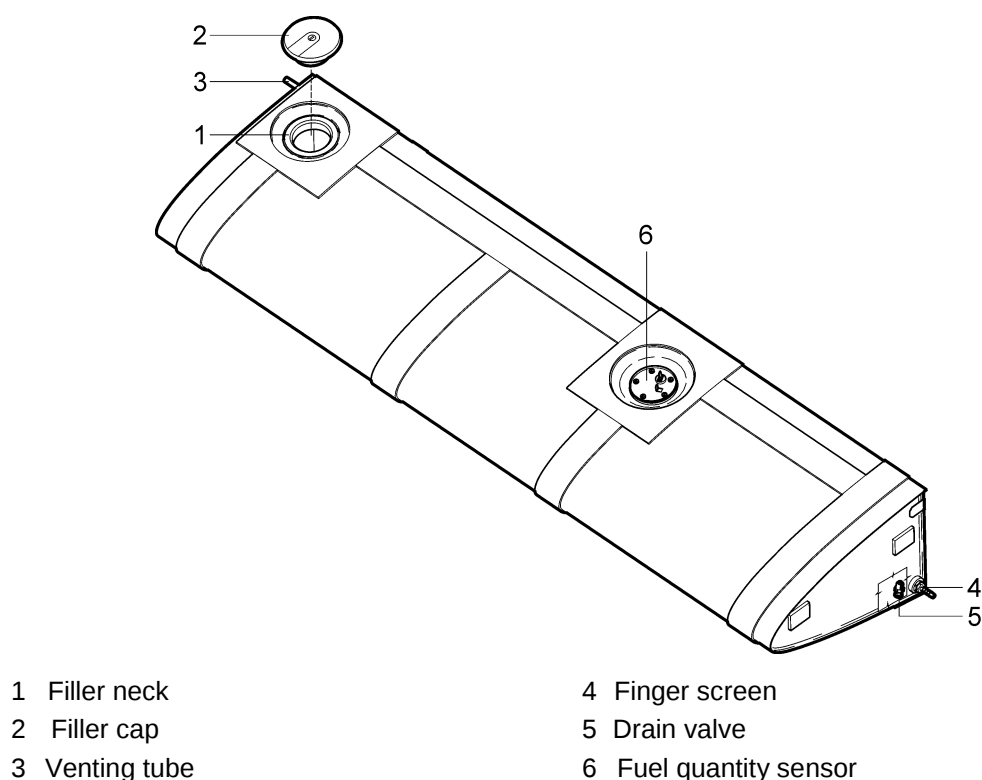

Fig. 9-2: Fuel tank, right
Fuel is stored in airplane in the fuel tanks. The fuel tanks are welded from Al-alloy sheet and their volume is 57 liters (15 US gallons) each. The tanks are located in the outer wings between ribs No.4 and 6a in front of the main spar. Their shape fits with 3.2 mm (1/8 in) offset with outer wing shape. The gap is filled with cork strips glued on the fuel tank. Cork strips protect the tank from touching the skin and the wing spar. Each fuel tank has a filler neck (1, Fig. 9-2) with flush head filler cap (2), venting tube (3), finger screen (4) and drain valve (5). Fuel is filled into the each tank through the filler neck (1), which is located on the top skin close to rib No.6a. Fuel drain from the tank is possible through the drain valve (5) located in the rear corner of bottom skin close to the root fuel tank rib.